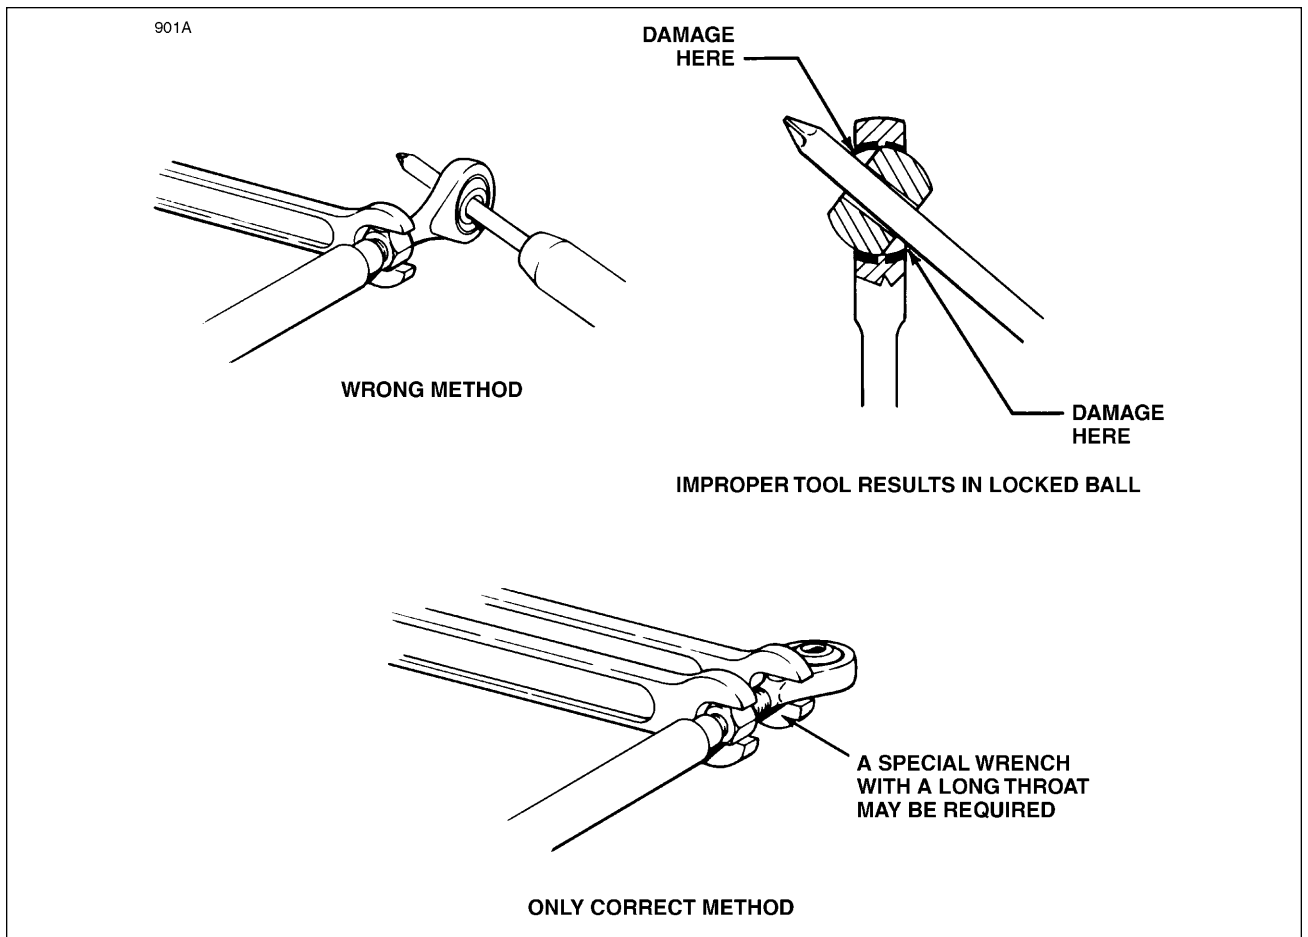

Figure 5-1. Installing Rod End Bearings
- j. After completion of adjustments, each jam nut must be tightened securely (Refer to Figure 5-1 for proper installation method).